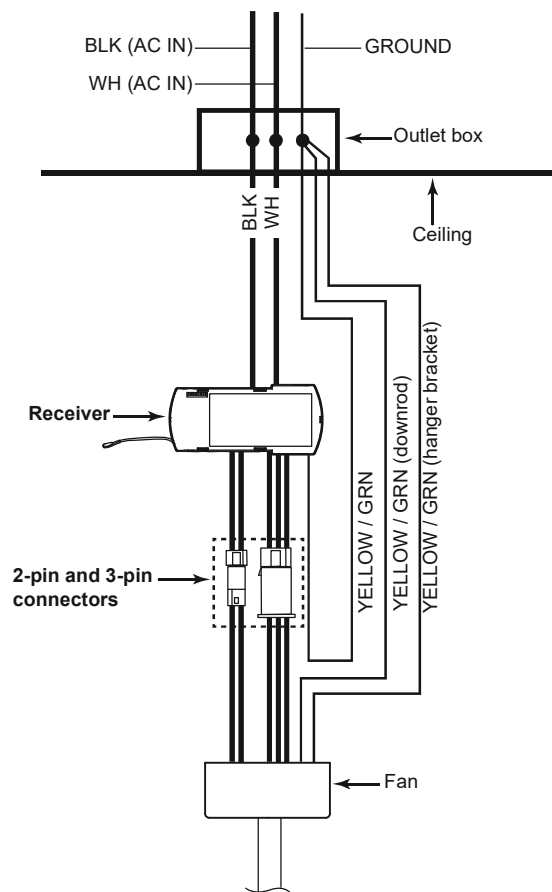

Figure 12
2. Make wire connections from the fan to the receiver. (Fig. 12)
3. Make wire connections from the receiver and fan to the outlet box as follows, using the wire nuts. (Fig. 12)